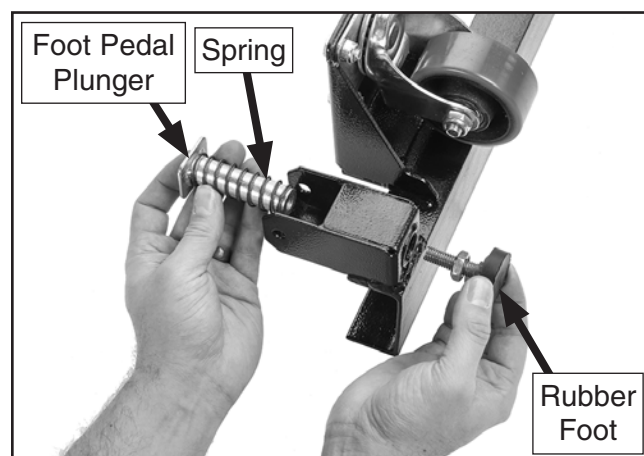

Figure 6. Installing foot pedal plunger, spring, and rubber foot.
6. Install foot pedal plunger and foot pedal spring into each side of support bracket (see **Figure 6**), and attach a rubber foot (with M10-1.5 hex nut) to the bottom of each foot pedal plunger.